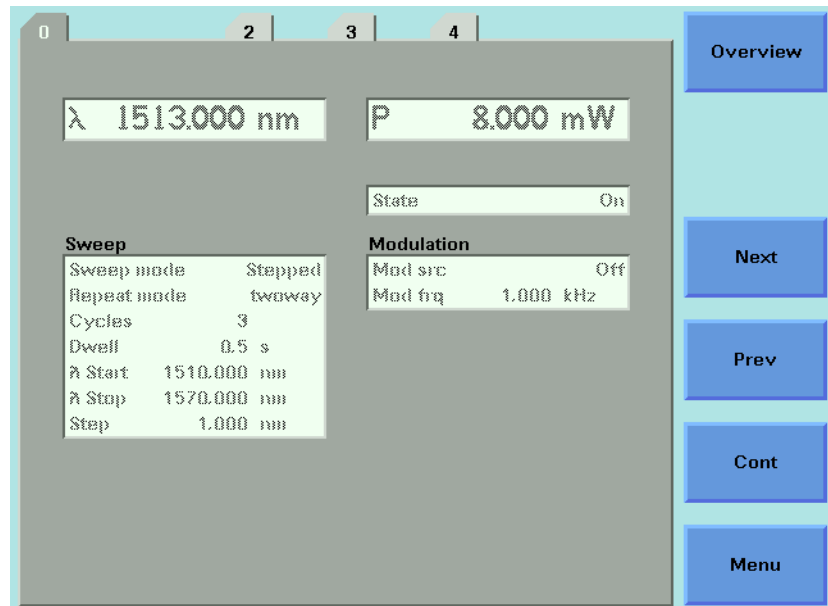

Figure 87 Pausing a Stepped Sweep
- b press [Pause] to pause the sweep. The screen in Figure 87 on page -151 appears. You can: